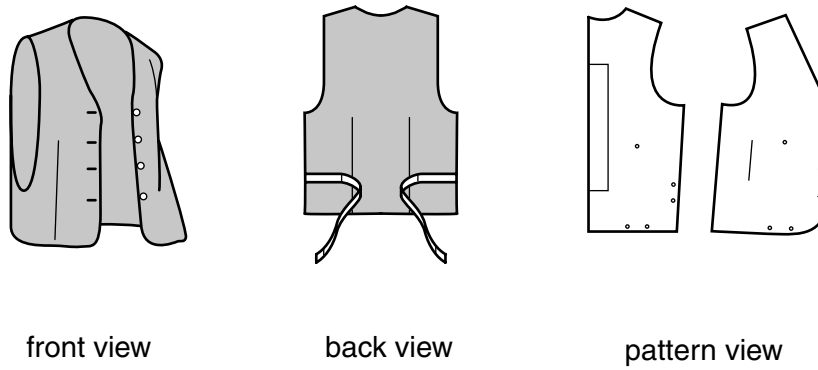

**Fig. 5**
- 5 Fig. 5 shows a box used for packaging and transporting an electronic scanner.
- (a) The box in Fig. 5 is made from duplex board.
- (b) Sketch a net of the box shown in Fig. 5. Include cut and fold details. [8]